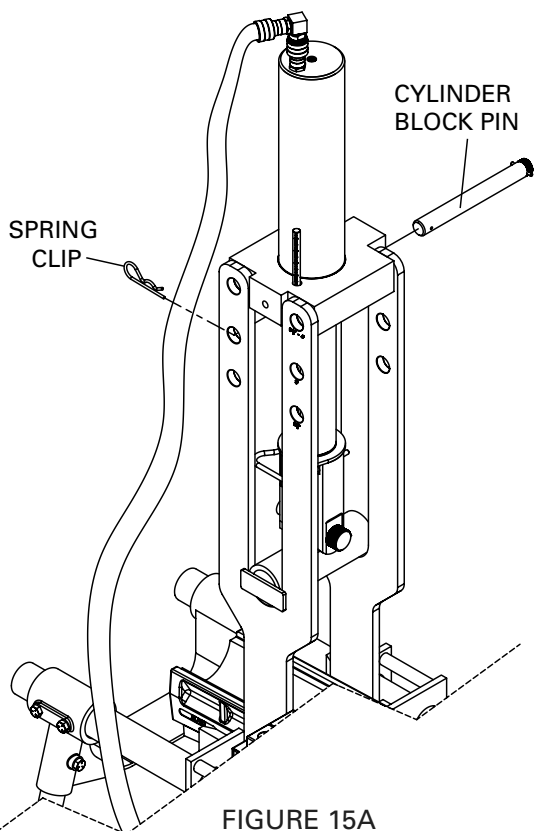

FIGURE 15A
13. Slowly rotate the pump valve lever to the open position and retract the hydraulic cylinder until it is secured in the frame sides. Rotate the pump valve lever to the closed position to stop the cylinder before it contacts the cylinder block pin. Remove the cylinder block pin from the 3" conduit bending hole in the frame sides (See Figure 15A).